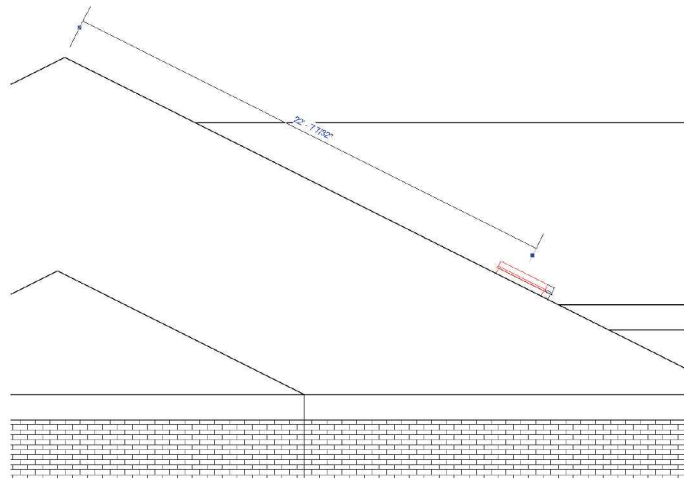

**FIGURE 6-2.2** West elevation: default dimension shown when selecting skylight.
9. Click and drag the grip shown in Figure 6-2.2 (wait until it snaps) to the ridge of the main roof (Figure 6-2.3).